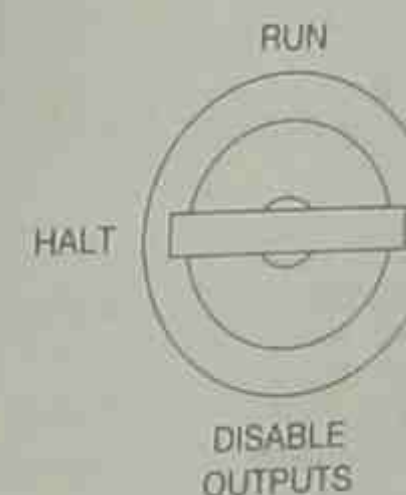

Figure 20-2 Key Switch in Halt Position
- Step 6.** Place the PLC processor key switch to a safe position as indicated in Figure 20-2.